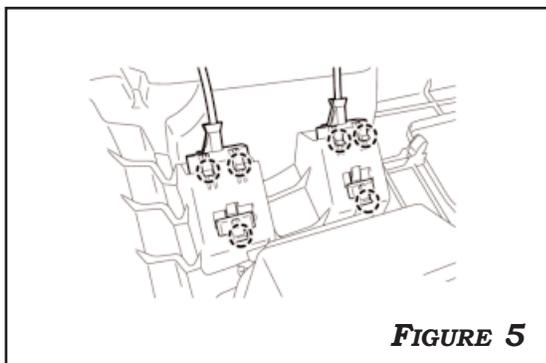

FIGURE 5
5. DISENGAGE THE 6 CLAWS AND SEPARATE THE FUEL LID LOCK OPEN LEVER AND HOOD LOCK CONTROL LEVER. **FIGURE 5**